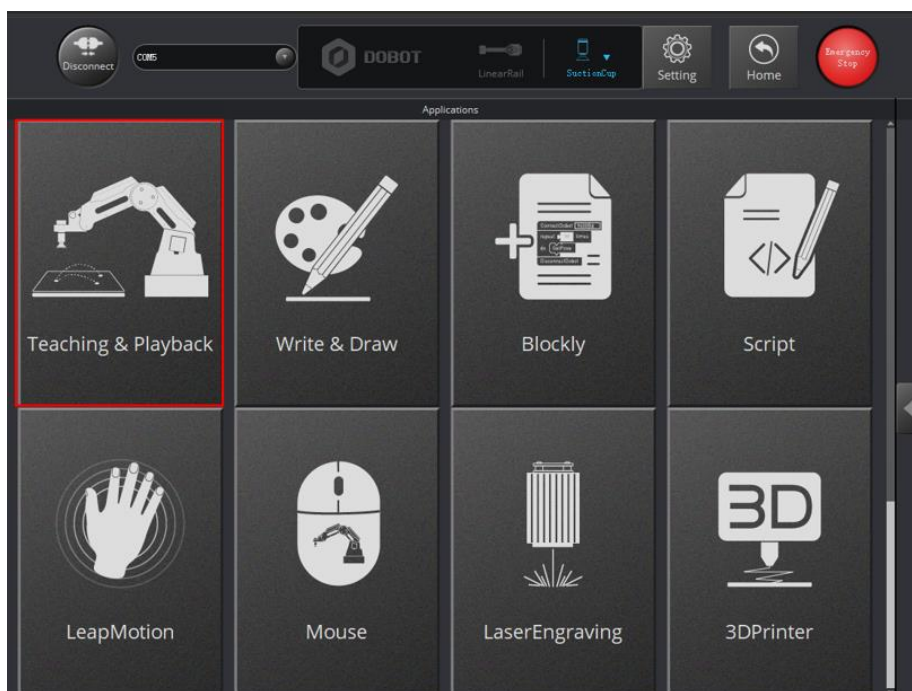

Figure 2.18 Click Teaching & Playback
1. Click **Teaching & Playback**, as shown in Figure 2.18.